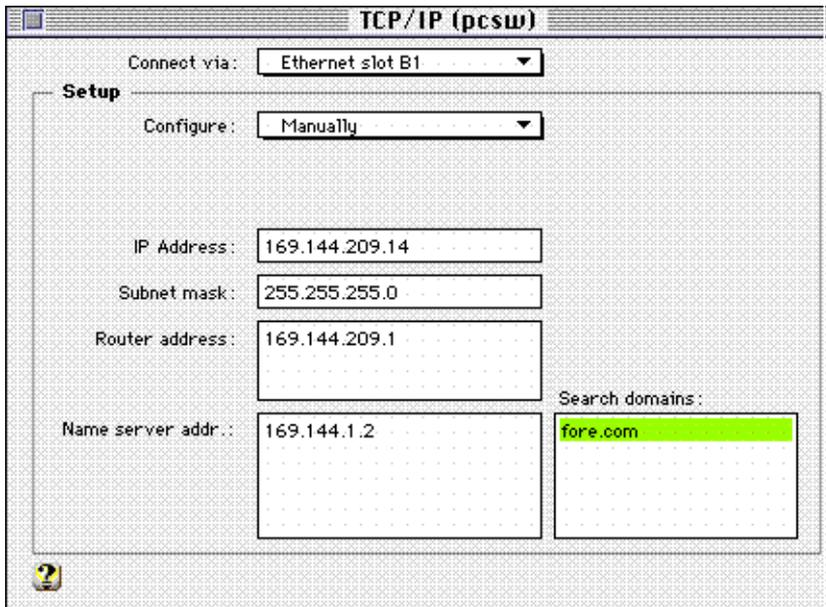

Figure 4.22 - Open Transport TCP/IP Control Panel
1. Open the TCP/IP control panel to select the slot containing the FORE ATM driver (denoted by Ethernet slot B1 in Figure 4.22). Note that the ATM adapter is listed as an Ethernet adapter because it is using LAN Emulation to emulate an Ethernet connection.
3. If you have an ATM-based gateway available, enter that address in the Router address field shown in Figure 4.22.